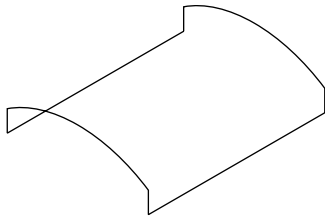

Fig. 18.14 Sixth example – Surfaces model – adding lines joining the outlines
6. With the **Line** tool, draw lines between the ends of the two plines using the **endpoint** osnap (Fig. 18.14). Note that if polylines are drawn they will not be accurate at this stage.